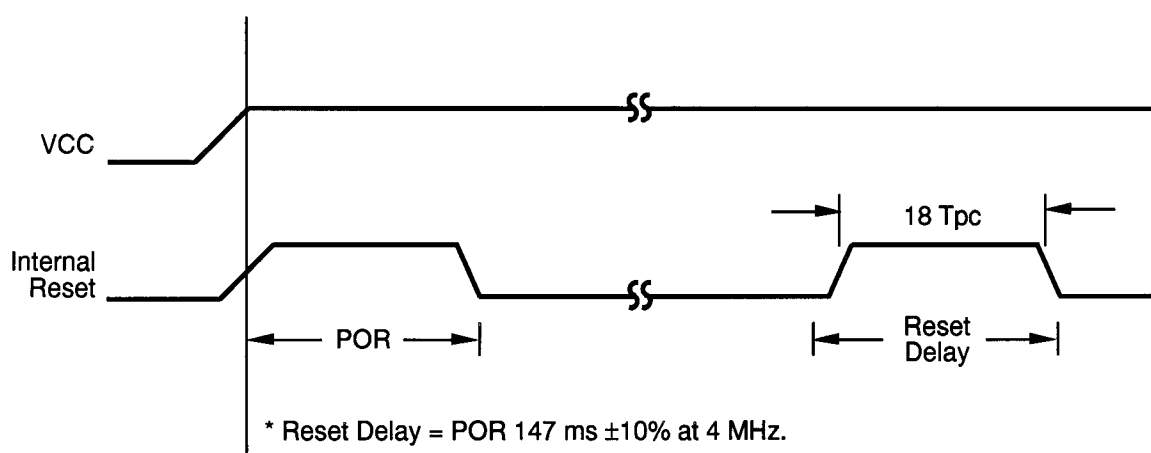

Figure 18. WDT Turn-On Timing After Reset
**Watch-Dog Timer.** The Watch-Dog Timer (WDT) is activated automatically by power-on if it is enabled in the Mask Option. The WDT is a retriggerable one-shot timer that resets the Z8 if it reaches its terminal count. The WDT is driven by the system clock. It must be refreshed at least once during each time cycle by executing the WDT instruction. WDT can be enabled by Mask Option. (Figure 18)